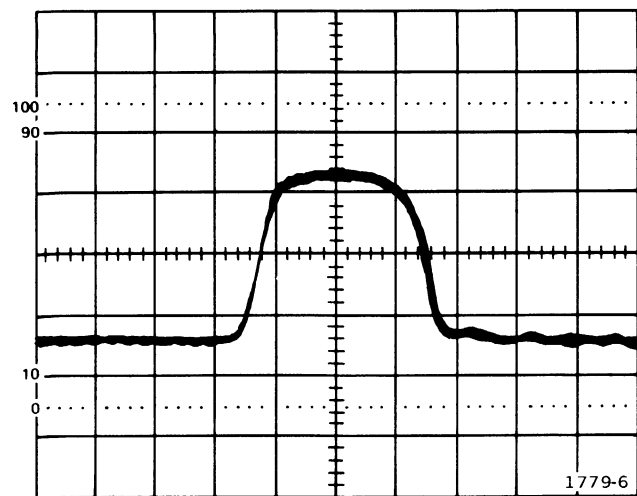

Fig. 5-3. Typical display on test oscilloscope when High-Speed Timing is properly adjusted. (475 set at 2 nanoseconds/division).
- f. CHECK—Test oscilloscope display for a symmetrical, flat-top current waveform similar to that in Fig. 5-3.